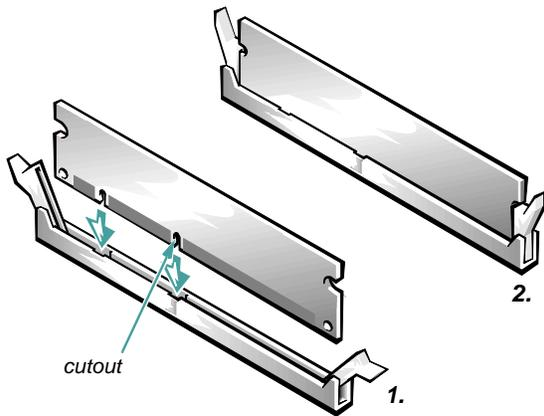

Figure 7-6. Installing a DIMM
1. **Press the ejectors on the DIMM socket down and outward as shown in Figure 7-6 to allow the DIMM to be inserted in the socket.**
The card-edge connector on the DIMM is keyed so that the DIMM can only be installed in the socket in one way (Figure 7-6).